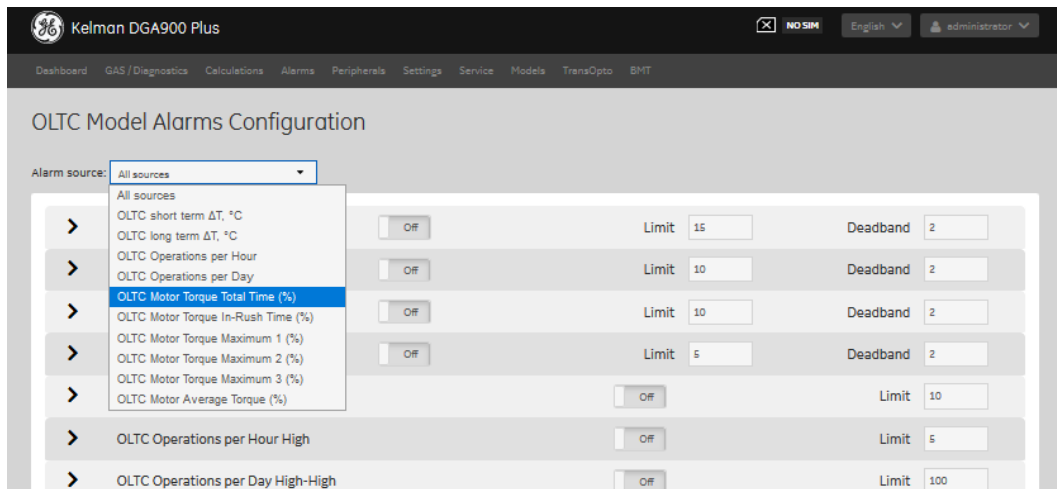

Figure 10-5: OLTC Motor Torque Total Time (%)
- Select **OLTC Motor Torque Total Time (%)** from the Alarm source dropdown menu as shown in Figure 10-5.